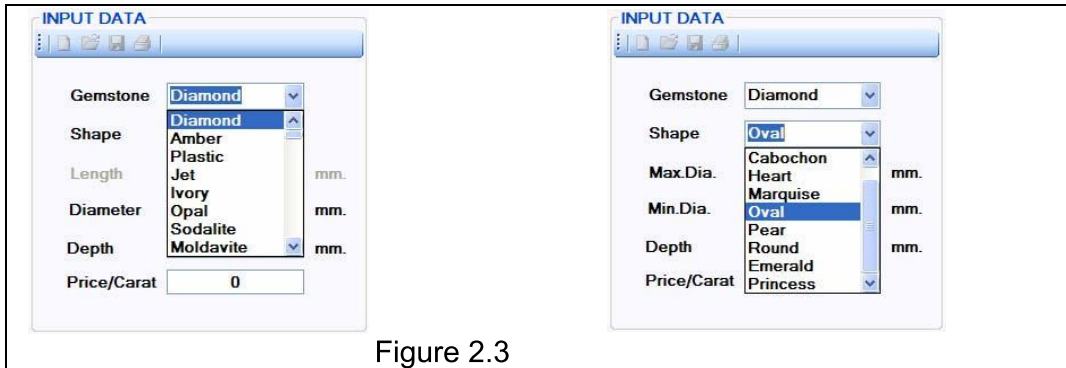

Figure 2.3
- 2) Next, move the cursor to “Shape” and click on it. A drop down menu with a list of all available shapes will be displayed. Select the shape of the gemstone from the drop down menu. Please refer to Figure 2.3 below.